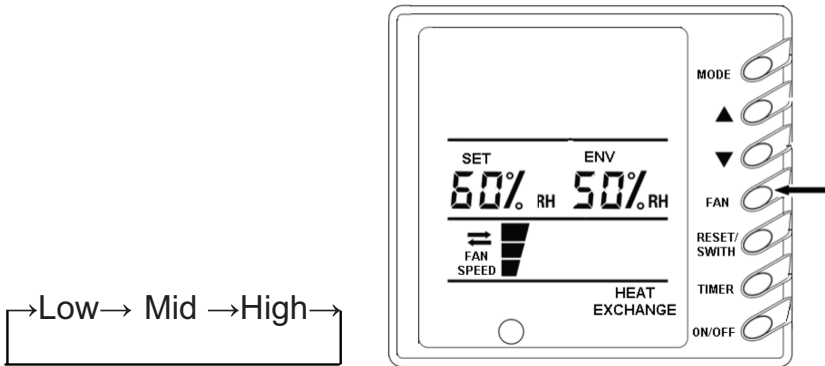

Fig.4
3.1.2 Fan Speed Control (Fig.4,5)(The figure is about relative display area, the same as below)
(1) During half-half air exchange, With each press of FAN button, the fan speed will change in the following order(Fig.4):